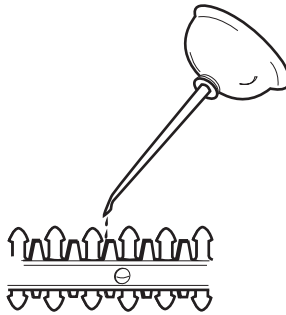

Fig. 16
2. Apply a light machine oil along the edge of the top blade (Fig. 16). Apply oil along the full length of the blade.